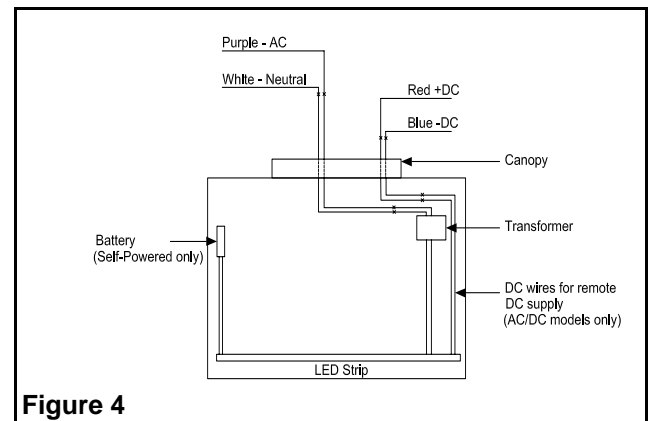

Figure 4
2. **Electrical connections:** Connect one end to the transformer leads, inside the enclosure, and the other end, to AC line voltage inside the junction box. Connect the white lead to neutral and the purple lead to AC line voltage (the input is universal 110 to 347 VAC). (See fig. 4). Connect the ground(green wire) to the junction box.
- Optional:** For AC models used with DC remote power. One end connects to the LED-STRIP leads, inside the enclosure, and the other end to DC input inside the junction box. Connect the red lead to positive, and the blue lead to the negative of the remote DC input (See fig. 4).
- For wall mount:** Attach the frame(6) to the junction box, using the junction box supplied screws. Install 2 stem washers to ensure bonding.